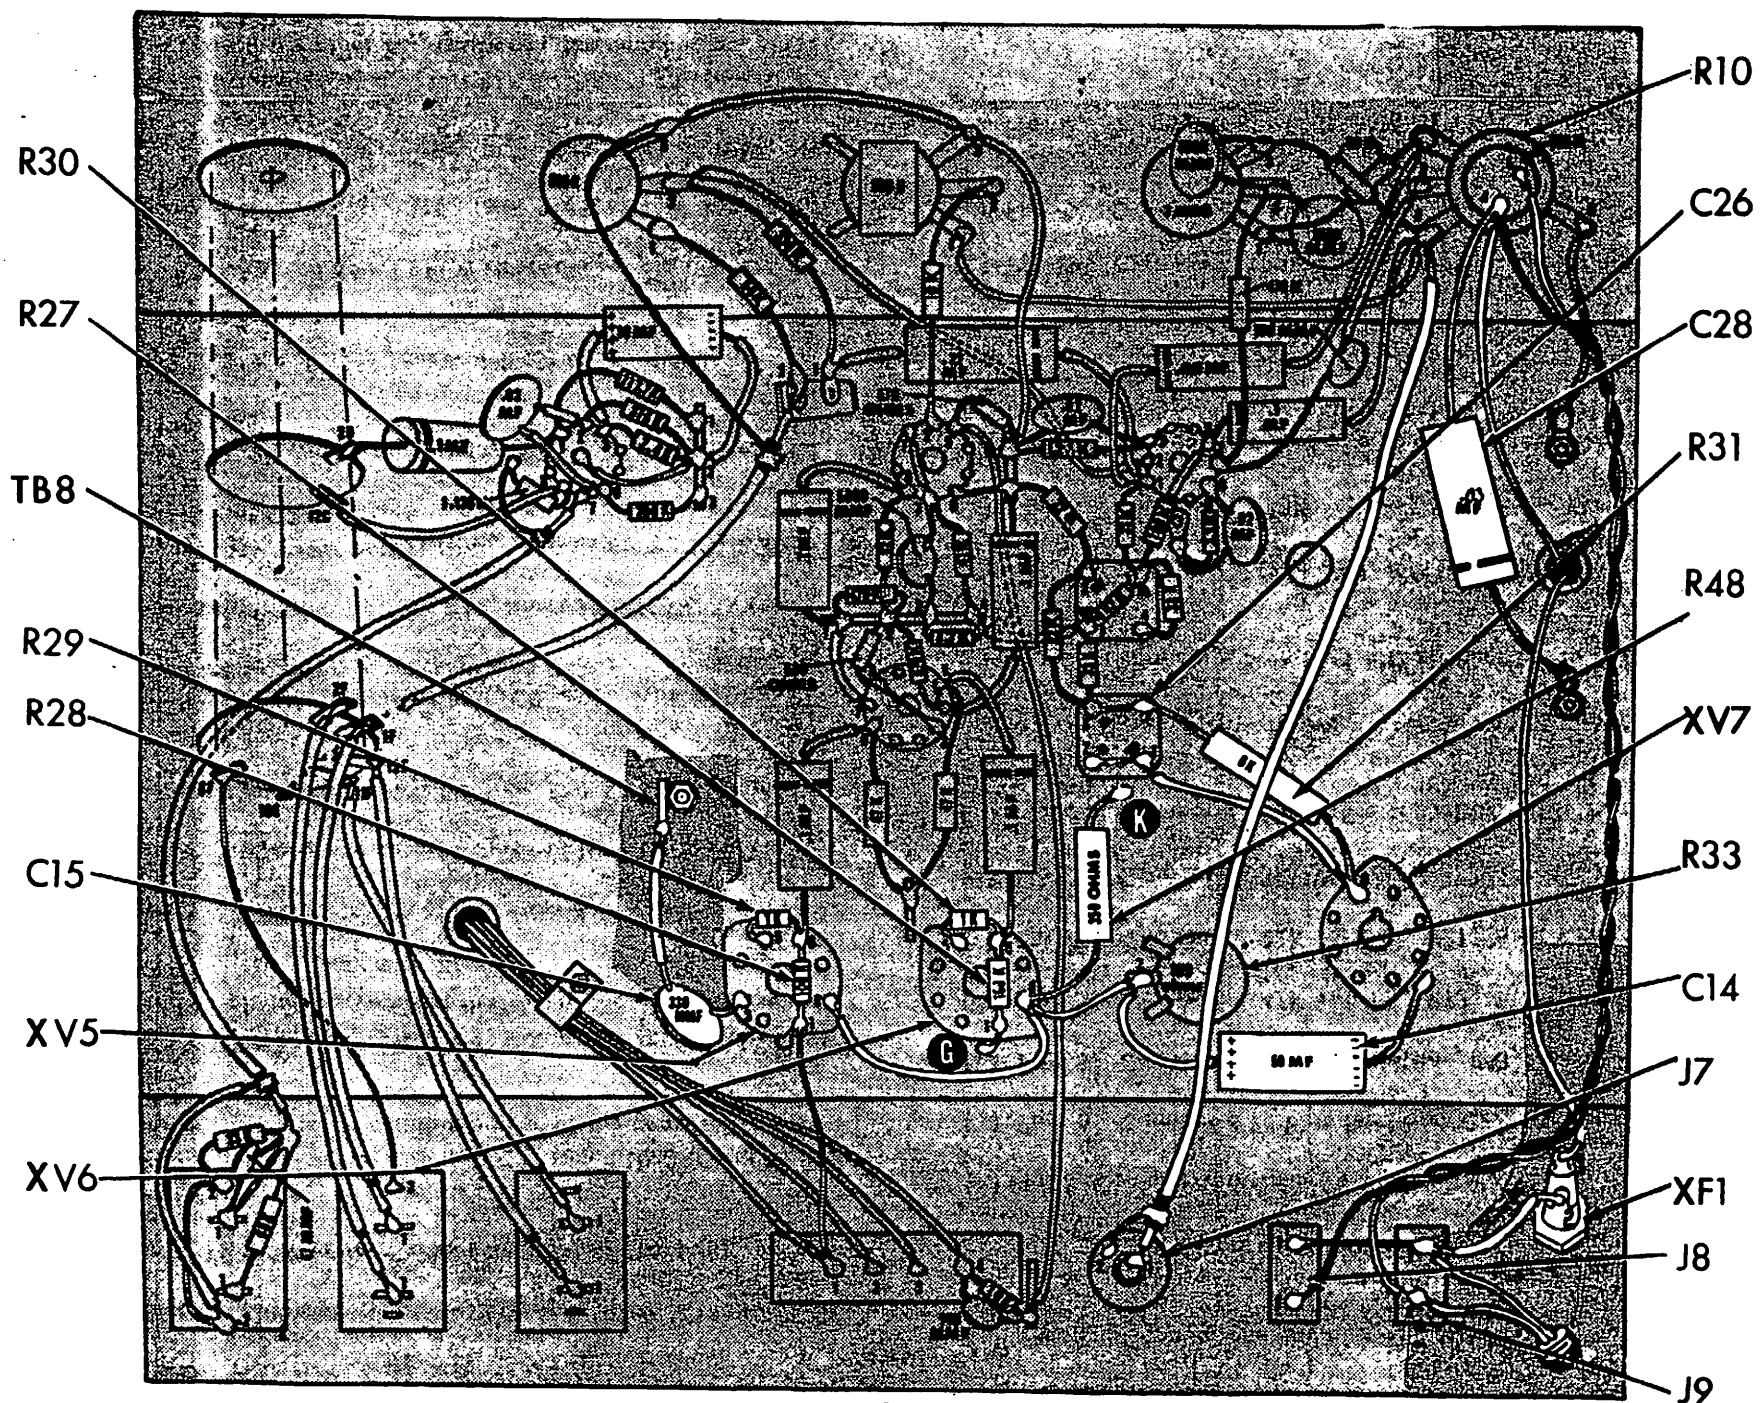

Fig. 6
- () Fig. 6. Connect a 1K resistor, R29, from XV5-6 (C) to XV5-5 (S).
- () Fig. 6. Connect a 1K resistor, R30, from XV6-6 (C) to XV6-5 (S).
- () Fig. 6. Connect a 100K, 5% resistor, R28, from XV5-6 (S) to XV5-1 (S).
- () Fig. 6. Connect a 100K, 5% resistor, R27, from XV6-6 (S) through XV6-1 (S) to ground "G" (S) on XV6.
- () Fig. 6. Connect the 330mfd capacitor, C15, from XV5-3 (S) to TB8 (S). Be sure to use spaghetti on both pigtailed.
- () Fig. 6. Connect a 4" yellow lead from XV5-8 (S) to XV6-8 (C).
- () Fig. 6. Connect a 2" yellow lead from XV6-8 (C) to R33-2 (C).
- () Fig. 6. Connect a 50mfd capacitor, C14, from R33-2 (S) to ground "J" on XV7 (S). Note that the negative lead goes to ground "J". Use spaghetti.
- () Fig. 6. Connect a 350Ω 7W resistor, R48, from XV6-8 (S) to ground "K" (S) on C26. Dress resistor against chassis. Use spaghetti. Dress adjacent leads away from resistor to avoid damage by heat generated in operation.
- () Fig. 6. Connect a 6K 10W resistor, R31, from C26-4 (S) to XV7-8 (C).
- () Fig. 6. Connect a 4" blue lead from XV7-8 (S) thru C26-1 (S) to C26-2 (S).
- () Fig. 6. Connect a .03mfd 20% capacitor, C28, from R10-4 (C) to ground lug "C".
- () Fig. 6. Connect one black lead from the power transformer T1 to R10-4 (C). Connect the other black lead to the fuseholder XF1-1 (S).
- () Fig. 6. Connect a black lead from XF1-2 (S) to convenience outlet J9-1 (C).
- () Fig. 6. Connect a 1 1/2" piece of bare wire from convenience outlet J8-1 (S) to convenience outlet J9-1 (C).
- () Fig. 6. Connect a 15" black lead from convenience outlet J8-2 (S) to R10-4 (S).
- () Fig. 6. Connect a 14" blue lead from convenience outlet J9-2 (C) to R10-5 (S).
() Fig. 6. Cut an 8" length of shielded cable. On one end (end "A"), strip the outer insulation back 1", the braided shield 3/4", and the inner insulation 3/8". On the other end (end "B"), strip the outer insulation and braid back 3/4", and the inner insulation 3/8". Wrap one turn of a 2" length of bare wire around the exposed shield at end "A" and solder. Connect the inner lead of end "A" to J7-1 (S) and the bare wire to J7-2 (S). Connect the inner lead of end "B" to R10-3 (S).
() Fig. 6. Insert a 3/8" grommet into the hole at the rear of the chassis. Pass the line cord through this grommet. Knot the line cord inside the chassis 3" from the end. Connect one lead to J9-1 (S) and the other lead to J9-2 (S).